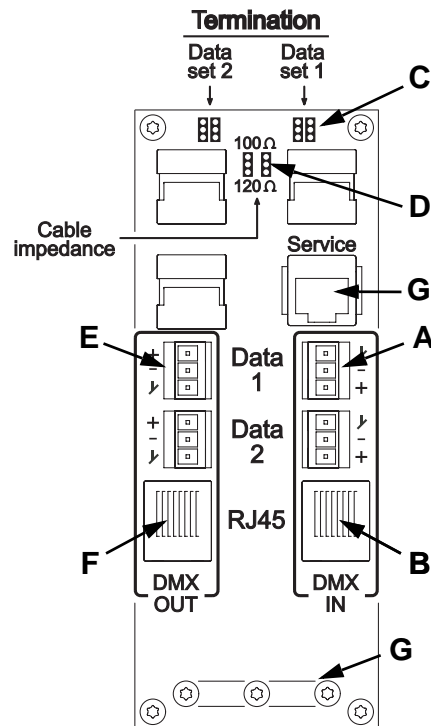

Figure 11: DMX connections
See Figure 11. Either connect the data cable to the luminaire's **Data 1 DMX IN** screw terminals (**A**) as follows:
3. Connect the DABS1 adaptor to the Exterior 1200 Wash using either an XLR connector connected to the data link or the RJ-45 service socket in the connections compartment behind the rear cover plate (see **G** in Figure 11 on page 24). If connecting via the data link, note that you may only connect to one luminaire at a time.